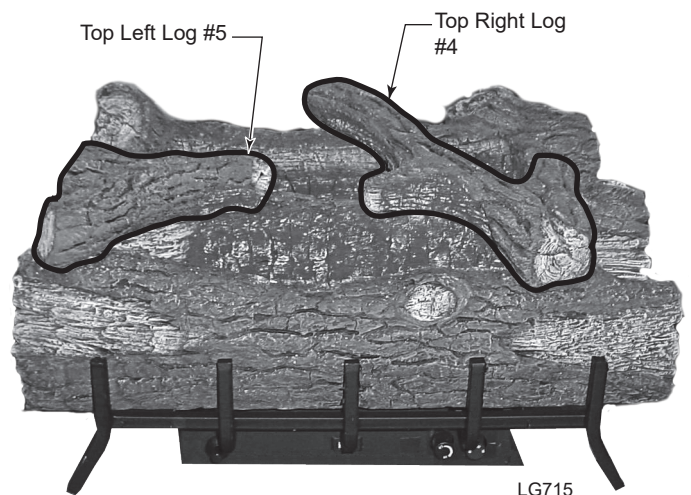

**Figure 25 -
2. Place Middle Log (#2) on middle support. *Figure 25*